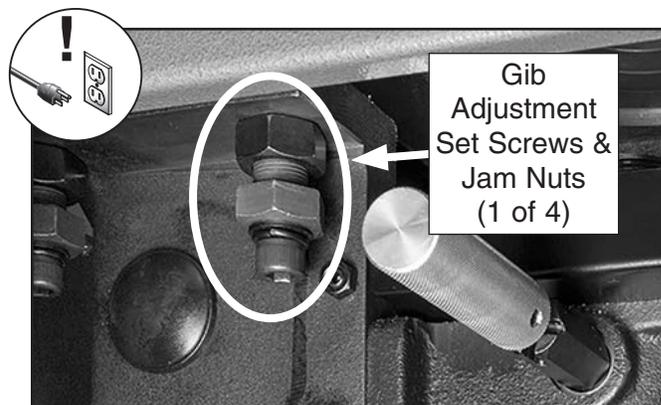

Figure 77. Location of gib set screws and jam nuts.
2. Loosen jam nuts on gib adjustment set screws (see **Figure 77**).